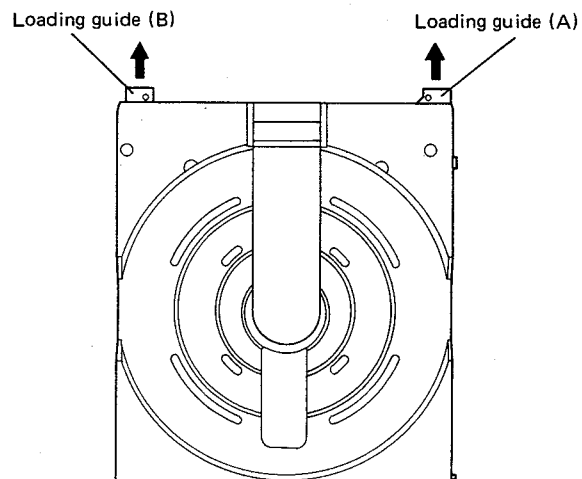

Fig. 13
5. With the loading guides (A) & (B) fully extended, mount the disc tray and loading guides on the chassis. (Fig. 13)